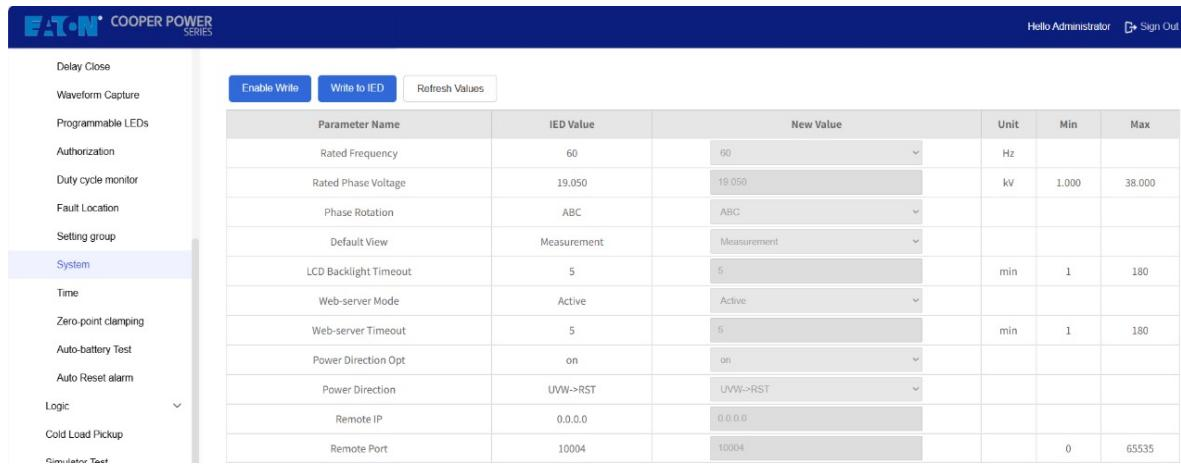

Figure 47 System settings on web-server
5. Click the "system" and parameter settings window will popup where it is possible to edit. (Figure 47)